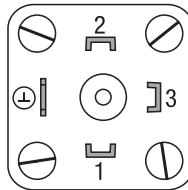

Fig. 11
1. Make sure that the system ER 50-1/ ER 56-1 has been wired in accordance with the wiring diagram, **Fig. 11**.